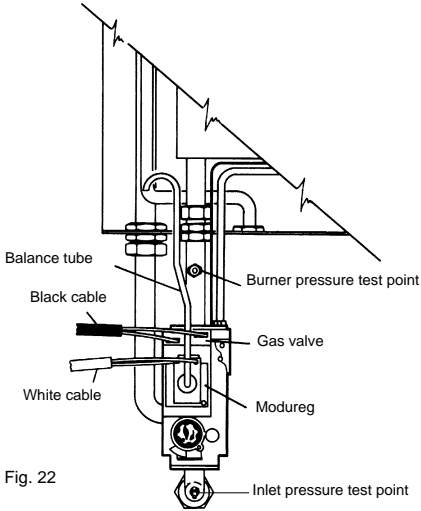

Fig. 22
- Loosen the screw in the burner pressure test point (fig. 22) and attach a gauge.
- e. Disconnect one of the wires from the «Modureg» (fig. 22), this will reduce the burner to minimum which should read 3.0 mbar +/- 0.5 mbar. If the burner pressure is not as stated check the inlet working pressure (fig. 22) which should be minimum 20 mbar. If that is correct, consult Ferroli. No attempt should be made to alter D.H.W. burner pressure.